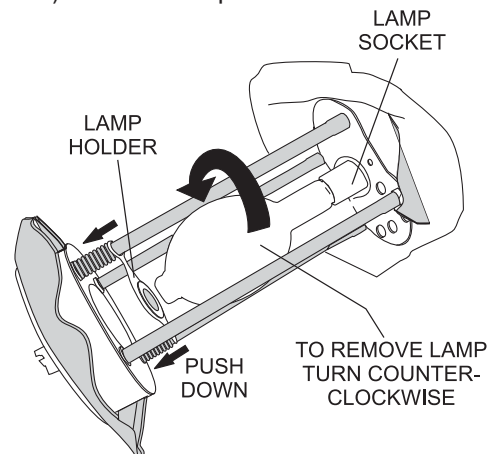

Figure 25. Removing the Lamp
3. Push down and hold the lamp holder (spring loaded) away from the lamp (Figure 25). Unscrew the lamp (turn counter-clockwise) from the lamp socket.